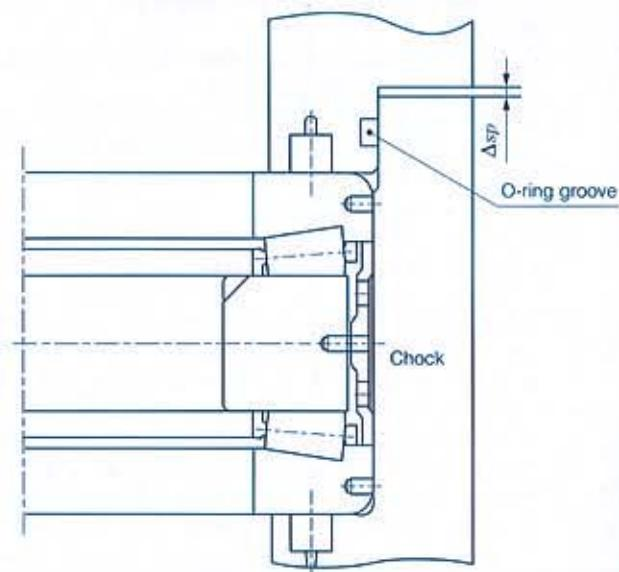

Fig. 3.44 Temporary assembly without preload springs
- (1) Remove the preload spring from the chock.
- (2) Using a jig, assemble the bearing into the chock.
- (3) Remove the O-ring and preload spring from the bearing holder lid, and install the holder lid on the chock.
- (4) Tighten the holder lid bolts temporarily.
- (5) Measure the clearance between the chock end surface and lid flange surface (Δ_{sp}) with a clearance gauge at several points around the bolts and determine the average (Δ_{sp}). (Fig. 3.44)
- (6) Set the shim combination thickness (Δ_{sm}) as follows: